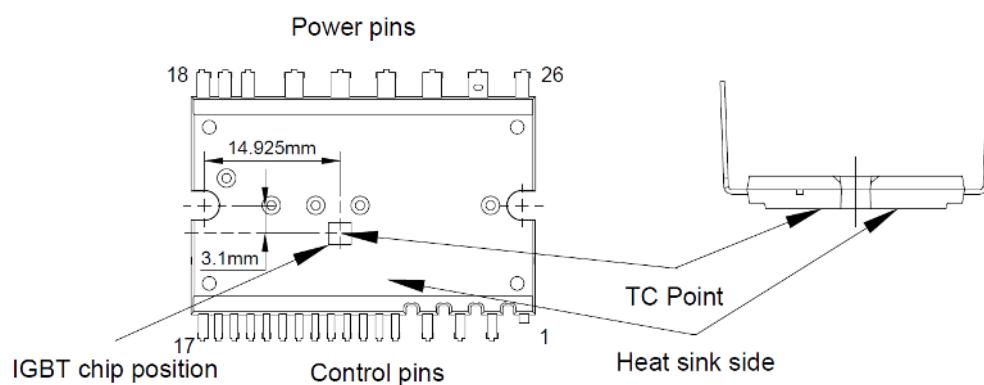

Figure 1. T_c Measurement Point
1. For the measurement point of case temperature (T_C), please refer to Figure 1.